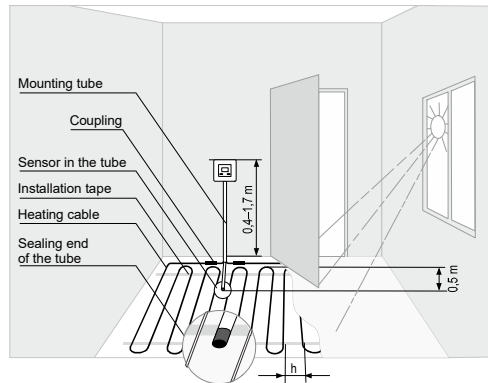

Figure 1. Mounting the thermostat and «warm floor» system
- fix the thermostat in the mounting box. To this a front frame must be removed by slipping it from the side with screwdriver inserted into the slot (Fig. 1). Put the thermostat in the mounting box and tighten the mounting screws.